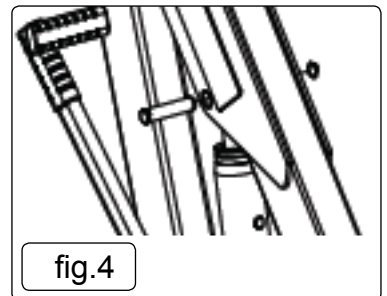
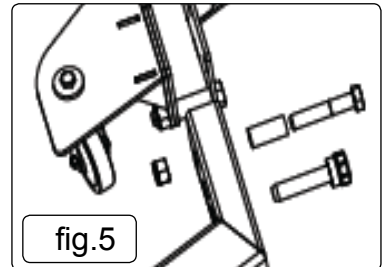

fig.4
fig.5
- 4.3. Lift the crane and attach the hydraulic unit to the arm using the pin & circlips. (fig.4). To assemble the legs, place the crane on the ground and introduce the rivet (9) and the screw in the position indicated (fig.5).